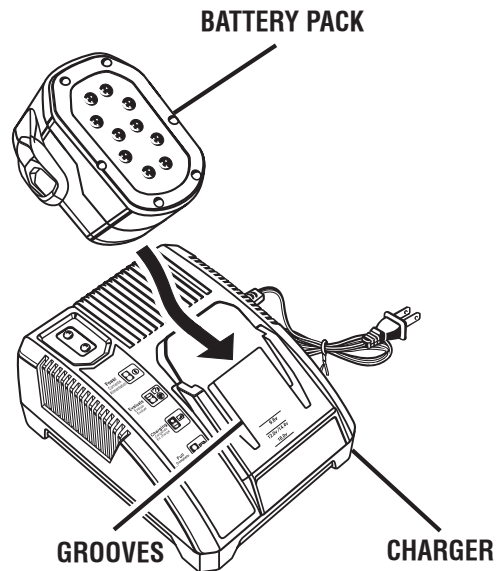

Fig. 2
- Attach the battery pack to the charger by aligning the raised ribs on the battery pack with the grooves in the charger, then slide the battery pack onto the charger. *See Figure 2.*
See Figure 2.